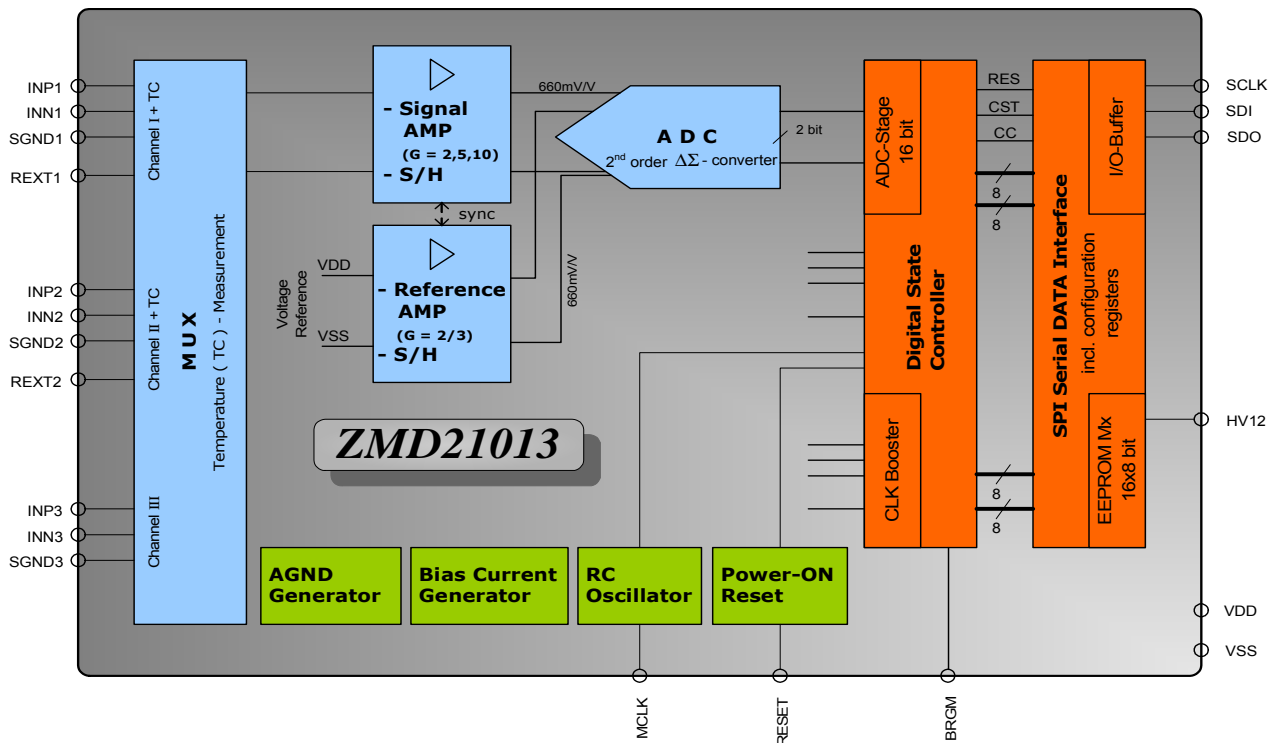

Figure 2: Functional Block Diagram
- Communication mode:** The analog stages (grounded *blue* in Figure 2) are inactive. No input signal A/D-conversion is running. The communication (of the external microcontroller) with the SPI takes place. The interface clock signal SCLK is required.